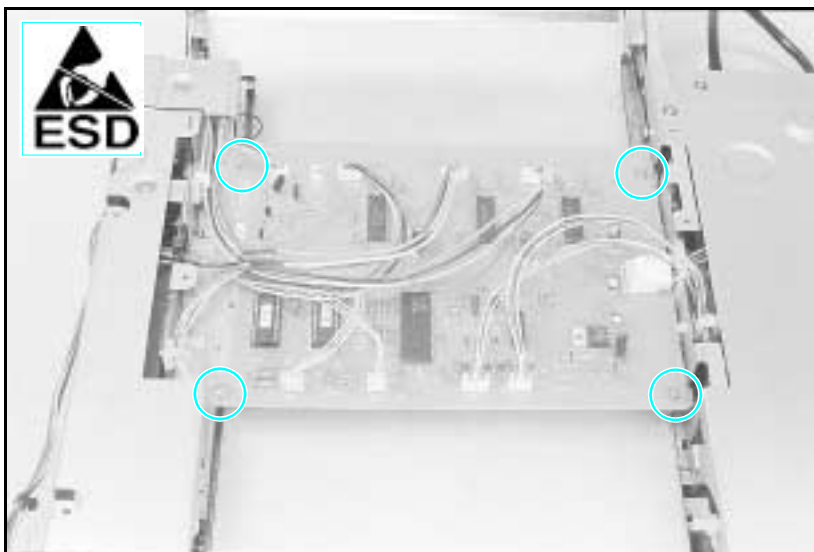

Figure A-17 **Control PCA**
4 Remove the (4) screws shown in Figure A-17.